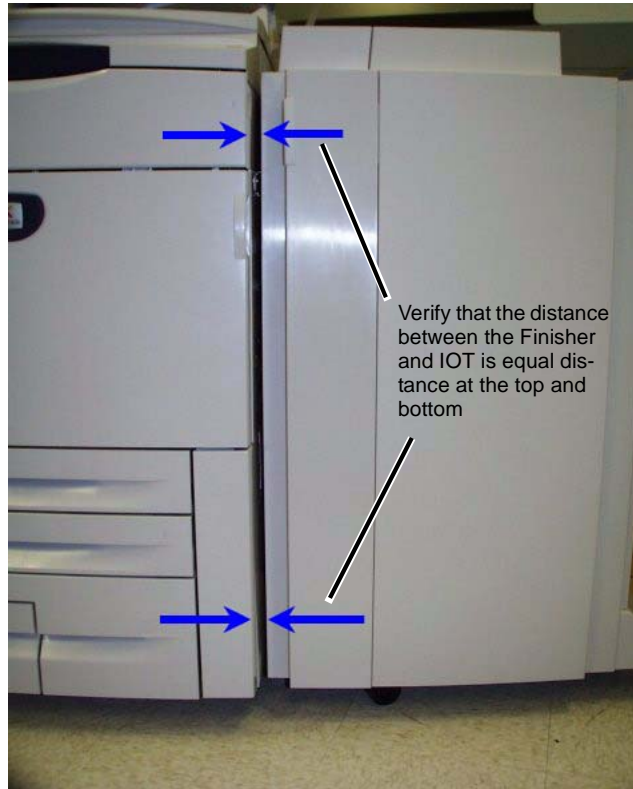

Figure 1 Verifying Finisher Level
4. Verify that the Finisher is Level and parallel with the IOT (Figure 1).